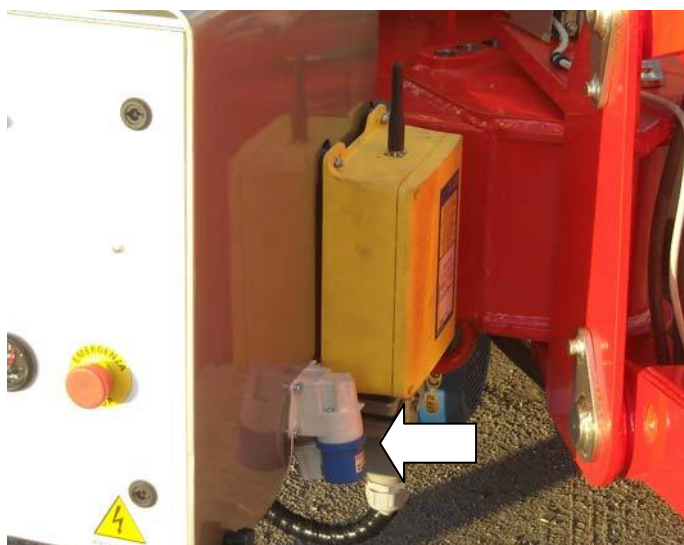

Fig. 3.4
- branch the electric plug (fig. 3.4) and socket (16A)